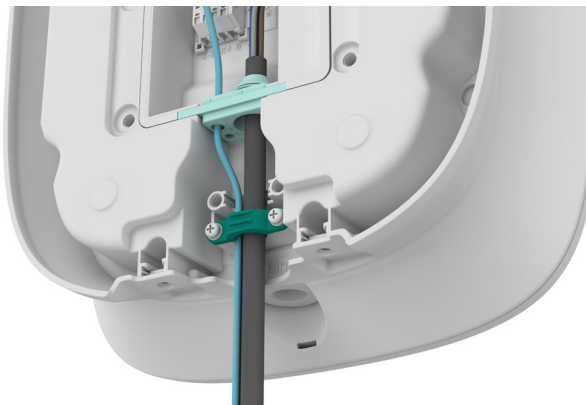

Figure 10 Plastic cable clamp
- 8 Fix the cables by the plastic cable clamp, as shown in Figure 10